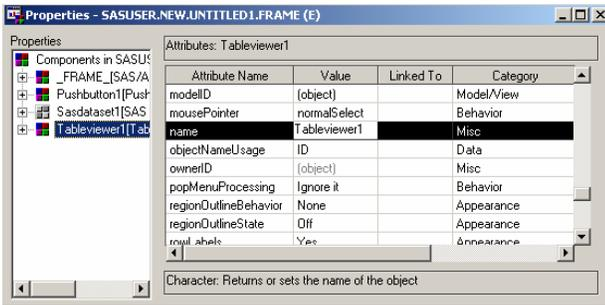

Figure 2 Modifying Viewer Properties
- 6) Verify that there is only one SAS Data Set Model component defined (see Figure 2) and that it is listed as the value of the viewer's **model** attribute. (called Sasdataset1)